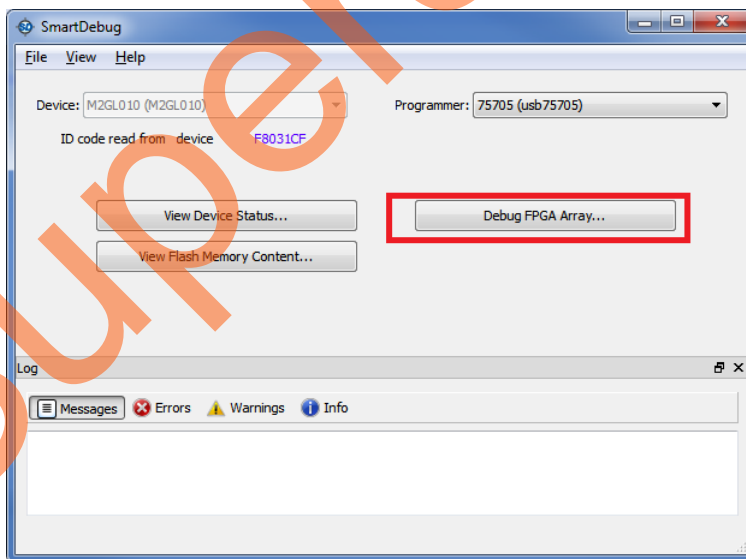

Figure 12 • SmartDebug Window - Debug FPGA Array
2. Click **Debug FPGA Array** as shown in Figure 12.